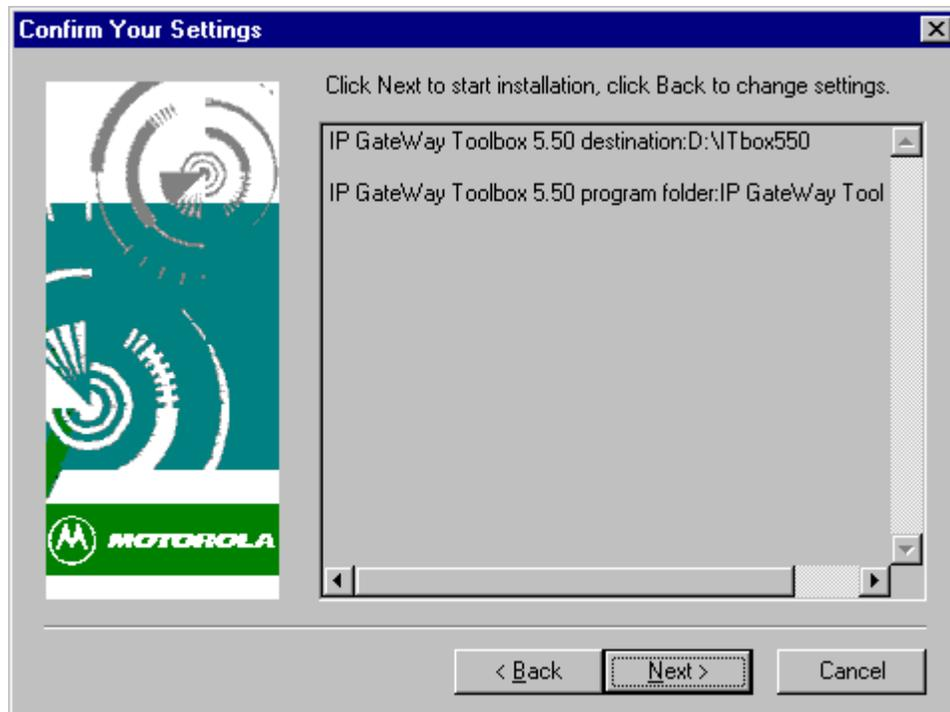

Figure 4-8: Confirm Your Settings screen
8. The Installation Wizard displays the *Confirm Your Settings* screen (see Figure 4-8). Verify that your settings are correct. If your settings are incorrect, click **BACK** to make the necessary changes. If your settings are correct, click **NEXT** to start the installation.